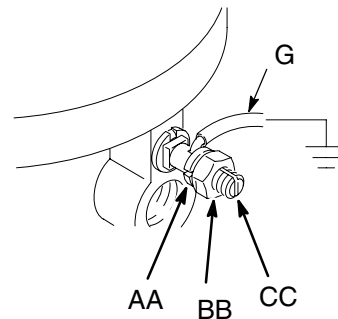

Fig. 3
1. Loosen the grounding lug locknut (BB) and washer (AA).
2. Insert one end of a 14 ga (1.5 mm²) minimum ground wire (G) into the slot in lug (CC) and tighten the locknut securely. See Fig. 3.